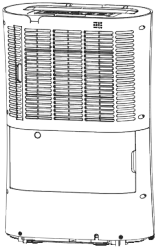

Fig. 3
2. Unplug the power cord. Ensure a good access to the back panel (Fig. 3).